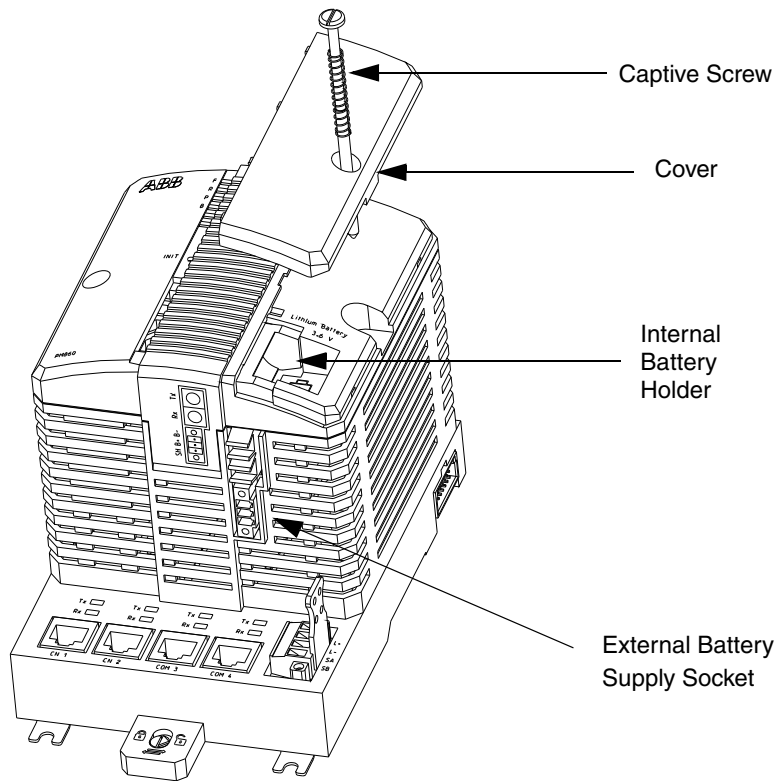

Figure 6. Back-up Battery - Connection
- using the internal battery (as shown in Figure 6 on page 33). The internal battery is not available in PM891.